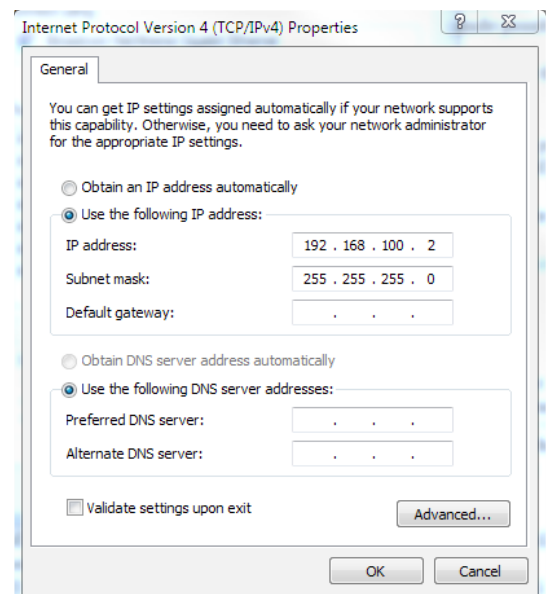

Fig. 2-33, Internet Protocol (TCP/IP) Properties Screen, Windows 7
7. The Internet Protocol (TCP/IP) Properties dialog box will open (Fig. 2-33). Select "Use the following IP address". Enter the values as shown (i.e. IP address 192.168.100.2 and Subnet mask 255.255.255.0). Record the existing IP address and Subnet mask in order to later return the computer to its original state.